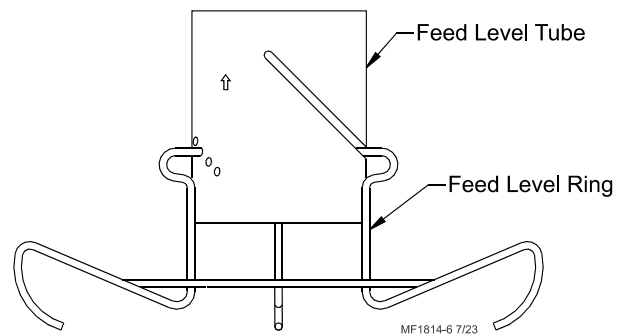

Figure 13. Adult Turkey Feeder Feed Level Ring Plastic Pan
3. Assemble the feed level tube and feed level ring as shown, see figure 13.
- Position the feed level ring in the fourth hole from the top for the steel adult turkey feeder pan, see figure 13.